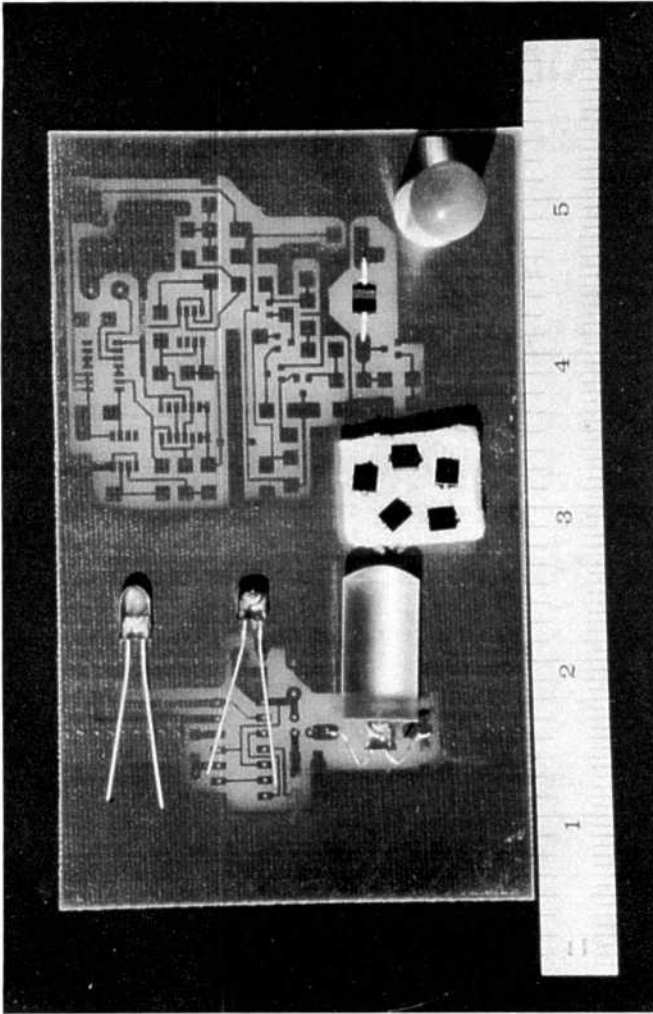

Fig 11—Transceiver PCB shown with detectors (right) and emitter (left) and short-range molded lenses.
The second set of optics I investigated was of my own design and fabrication. They are the clear solid cylindrical lenses shown in Fig 11. The idea behind the lens was to reduce the beam divergence from an infrared LED to about a degree or so. Infrared LEDs (IRLEDs) with small integral lenses typically project beams with an 8- to 12-degree half angle. That kind of beam divergence is okay if you are trying to control a TV from across the room, but is not directive enough for long-range applications. What I wanted was an IRLED that could cast a 1- or 2-degree beam, something that would effectively concentrate the optical energy, but not so much as to complicate link alignment. I started with a 1-degree (17.5 milliradian) beam width design goal, and a more general goal of small physical size. Since I planned to make these lenses from epoxy, I was concerned that a strong exothermic reaction might occur when curing the
I used the Siemens BP104 PIN photodiode for both of the links described in this article. The BP104 comes in a two-leaded DIP-style package, as seen on the right side of Fig 11, positioned over its mounting pads of the PCB, and mounted on the PCB facing into the page in Fig 9. Five (5) other BP104s are shown stuck in a piece of styrofoam in the center of Fig 11.
Two LEDs of the same basic type, the SFH485P and the SFH484, manufactured by Siemens Optoelectronics, were used in the links described in this article. The SFH485P LED was used in the transmitter with the 1/2-inch diameter, 1-inch focal length optics, and comes in a flat-faced T-1-3/4 package. The flat face of the SFH485P facilitates bonding of the LED to the molded plastic lens used in the short range system. The SFH485P is shown in the center left portion of Fig 11. An SFH485P that is bonded to the plastic lens is shown in the lower left part of Fig 11 positioned over its PCB mounting pads.
The SFH484 LED was used in the transmitter with the 1.2-inch diameter aperture. The SFH484 comes in a T-1-3/4 package with the integral lens that produced an 8-degree half-angle beam, all of which is captured by the transmitters primary 1.2-inch optics. The SFH484 is shown in the upper left hand portion of Fig 11.